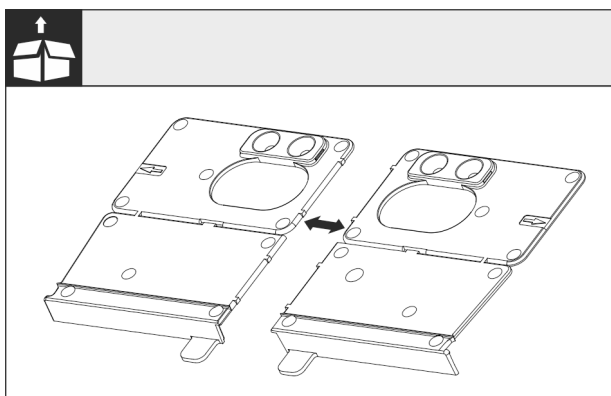

Fig. 24
- Separate the floor mounting bracket Fig. 24 () at the perforation.